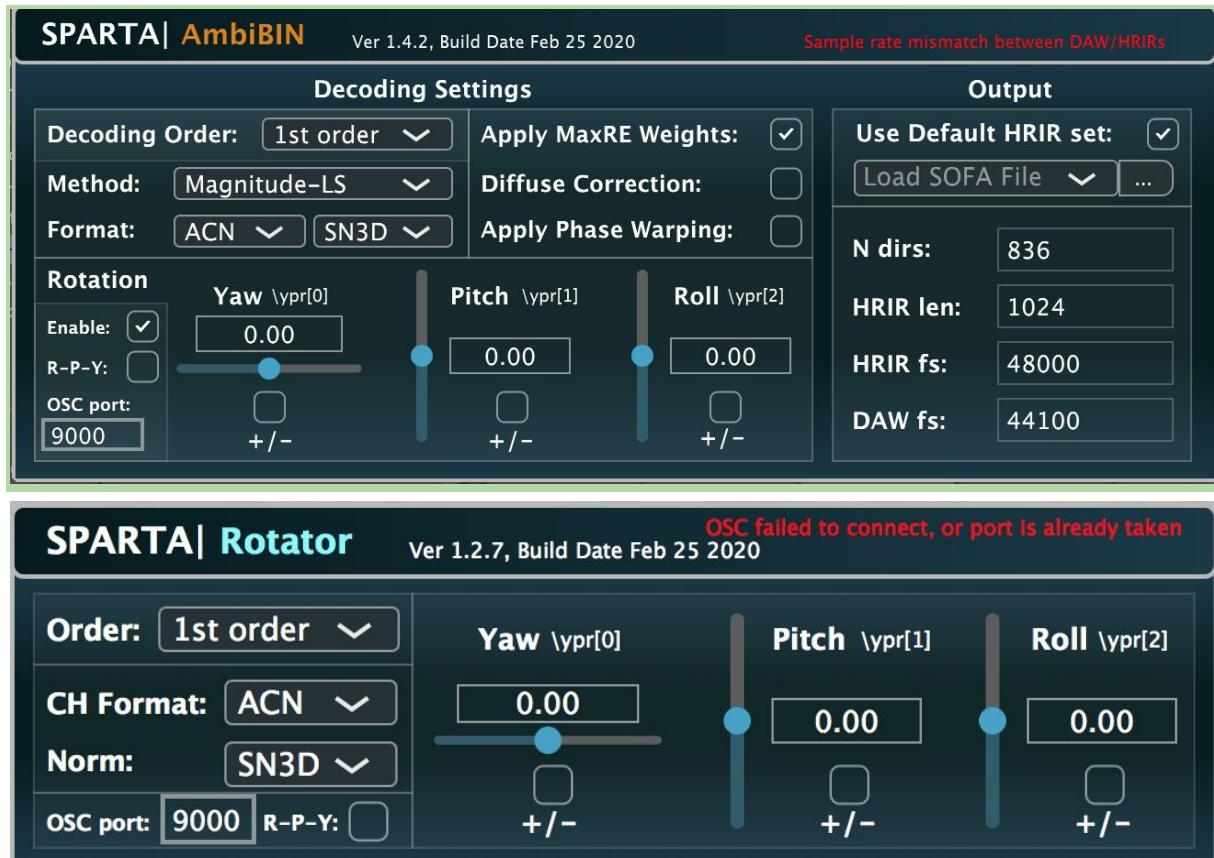

Figure 26: Plug-In example Sparta activation of the OSC-Data
**Step 5.1:** Select the correct OSC port (bottom left corner see figure 26)